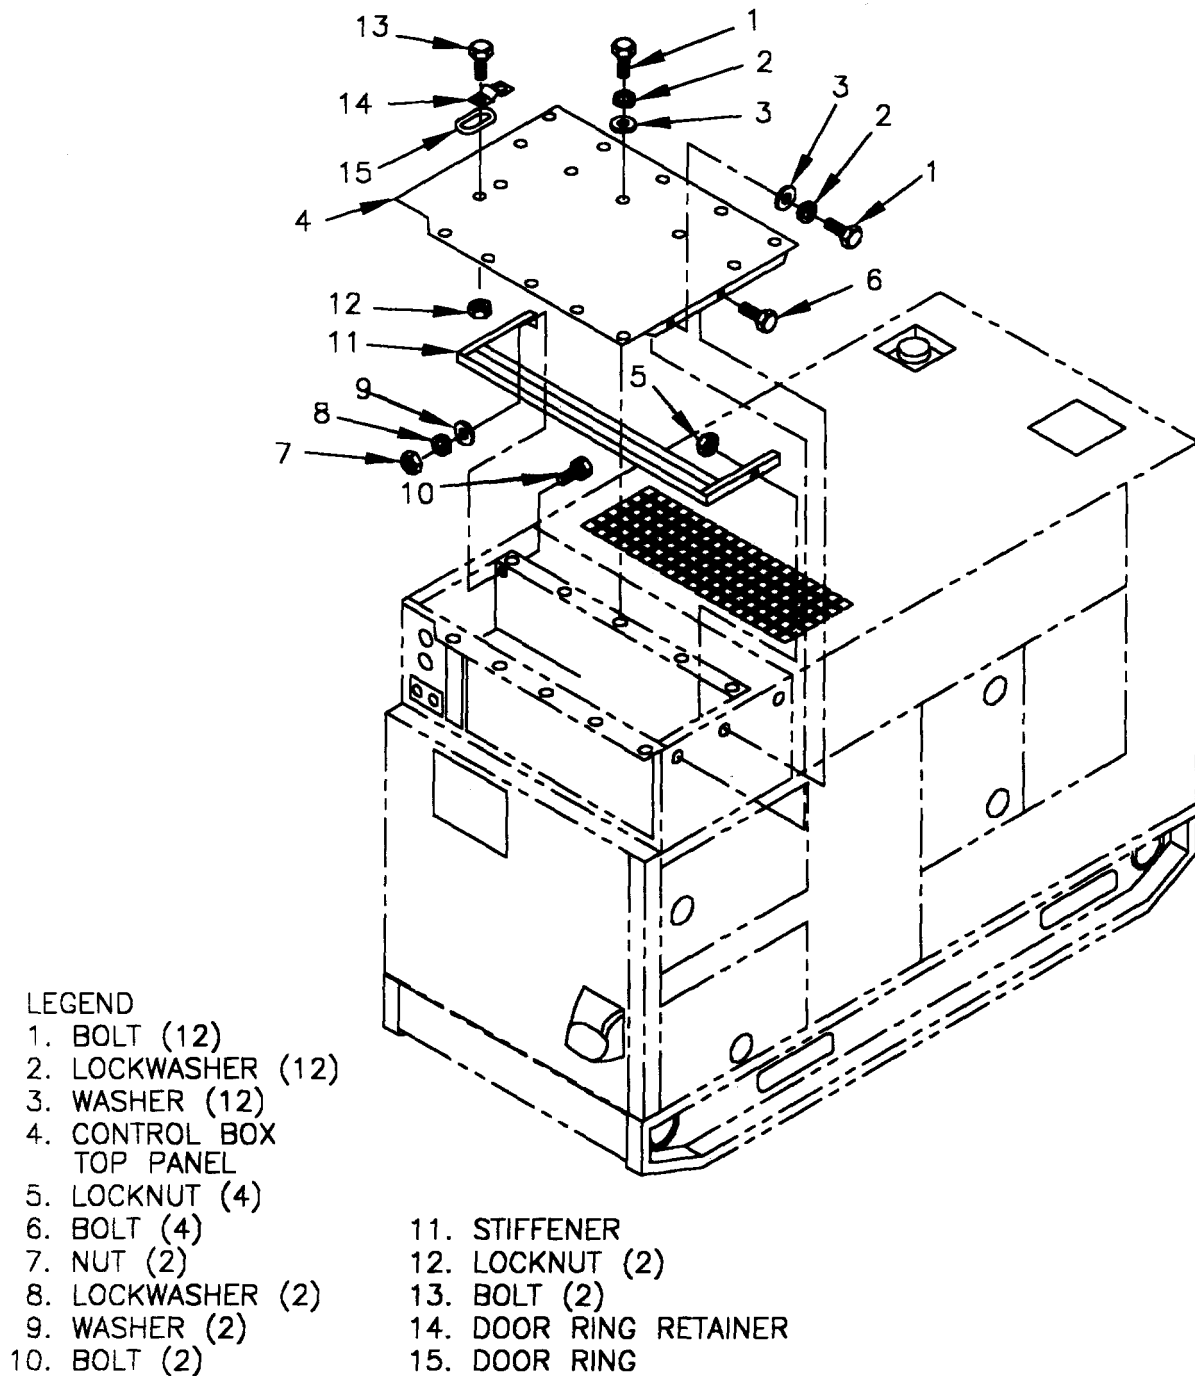

FIGURE 4-6. DCS CONTROL BOX TOP PANEL
- (5) Remove bolts (1, Figure 4-6), lockwashers (2), and washers (3) from top panel (4).
- (3) Inspect top panel (4, Figure 4-6) for dents, cracks, loose paint, corrosion, and missing mounting hardware.
- (1) Apply tear drop gasket (Item 18, Appendix E) to mating surface of door ring retainer (14, Figure 4-6). Position door ring (15) and door ring retainer on top panel (4), and install bolts (13) and locknuts (12).
- (2) Install stiffener (11), bolts (10), washers (9), lockwashers (8), and nuts (7) on DCS control box assembly.
- (3) Install top panel (4) on control box with bolts (6) and locknuts (5).
- (4) Install washers (3), lockwashers (2), and bolts (1) on top panel (4).
- (6) Raise and secure DCS control panel with two fasteners.
- (7) Install DCS control box door. Refer to paragraph 4.7.1.
- (8) Connect negative battery cable to battery, and close BATTERY ACCESS door.